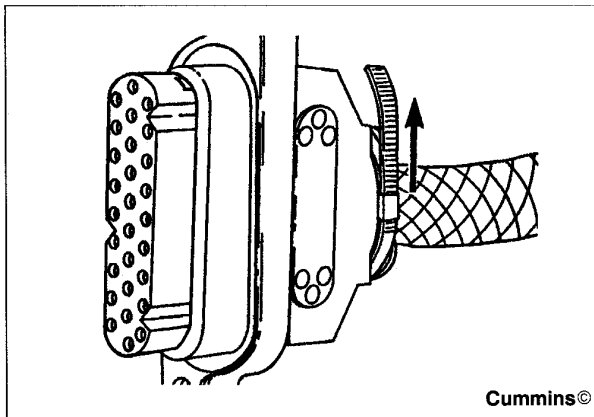

Figure 90 Install New Plastic Wire Tie Through Cover
12. Install a new plastic wire tie, Part No. 3822924, through the cover and around the rear of the connector (Figure 90).